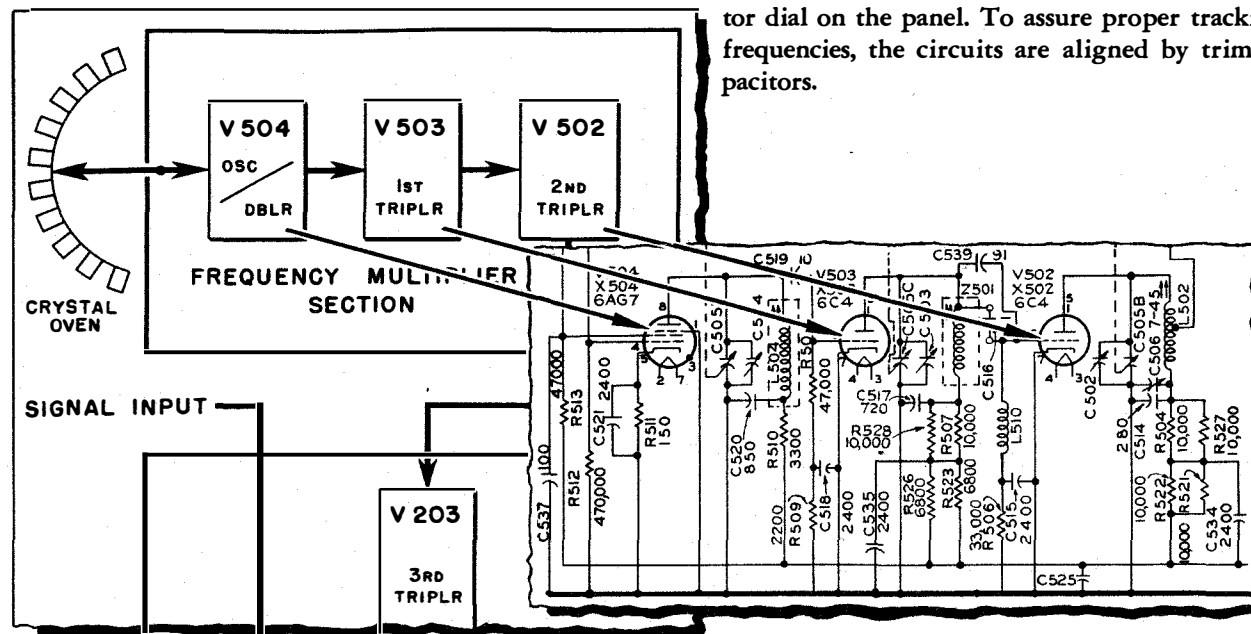

Figure 2-3. Frequency-Multiplier Circuits
(2) FREQUENCY-MULTIPLIER SECTION, CRV-35116.—The frequency multiplier develops the necessary heterodyning frequency from the fundamental frequency of the crystals employed with the equipment. Referring to the illustration, Figure 2-3, the crystal selected by the switching mechanism in any tuning sequence is connected to the grid and screen of the oscillator tube, V504, to form a Pierce oscillator.